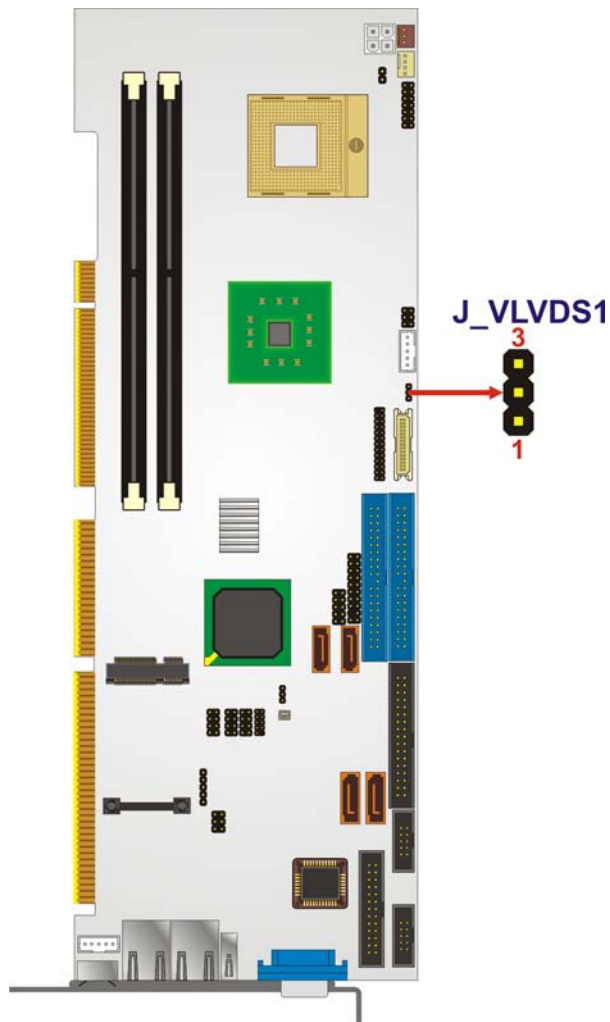

Figure 5-16: LVDS Voltage Selection Jumper Pinout Locations
- Jumper Location:** See **Figure 5-16**
The LVDS Voltage Selection jumper location. is shown in **Figure 5-16**.